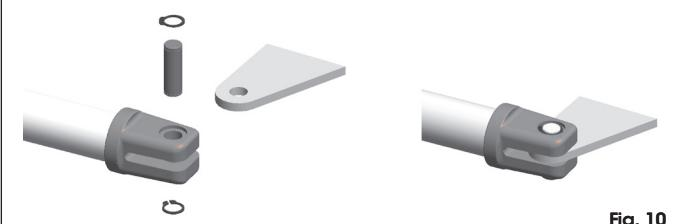

Fig. 10
- Assemble the front bracket as shown in Fig. 10.